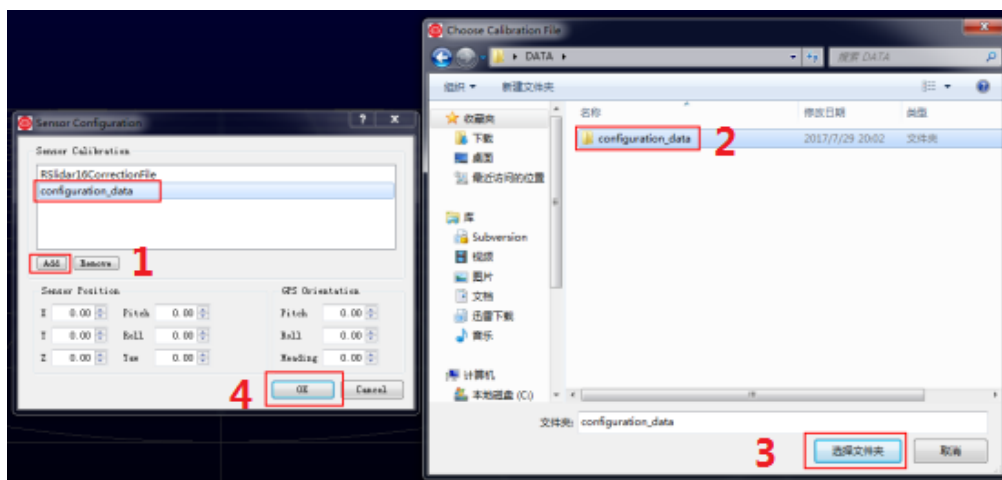

Fig C-2 RSView Select Sensor Correction File
4. The Sensor Configuration dialog will appear. The application contains a default configuration folder of RSLIDAR-16 called "RSLidar16CorrectionFile" for reference, but please add the right configuration files folder of the RSLIDAR-16 you have, or you will get chaos point cloud display with the default configuration files. Select the configuration files folder of your lidar and then click **OK** (Fig C-2). The path of the folder should only include English characters and should include all three csv files (angle.csv, ChannelNum.csv, curves.csv). You can find the configuration files folder named "configuration_data" in the U disk in the RS-LiDAR-32 package box or you can ask the RoboSense support to get the files. The path contains the configuration files should not contain any Chinese character.